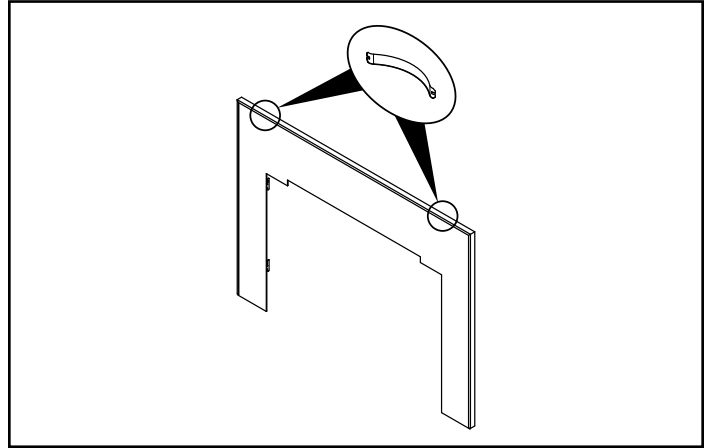

Figure 21.3
5. Install two steel springs at the top on each side and between the flat surround and the assembled trim kit as shown in **Figure 21.3**